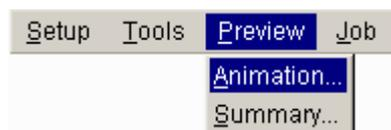

Figure 2.36 Animation menu
1. Select **Preview→Animation...** in the menu bar. See Figure 2.36.